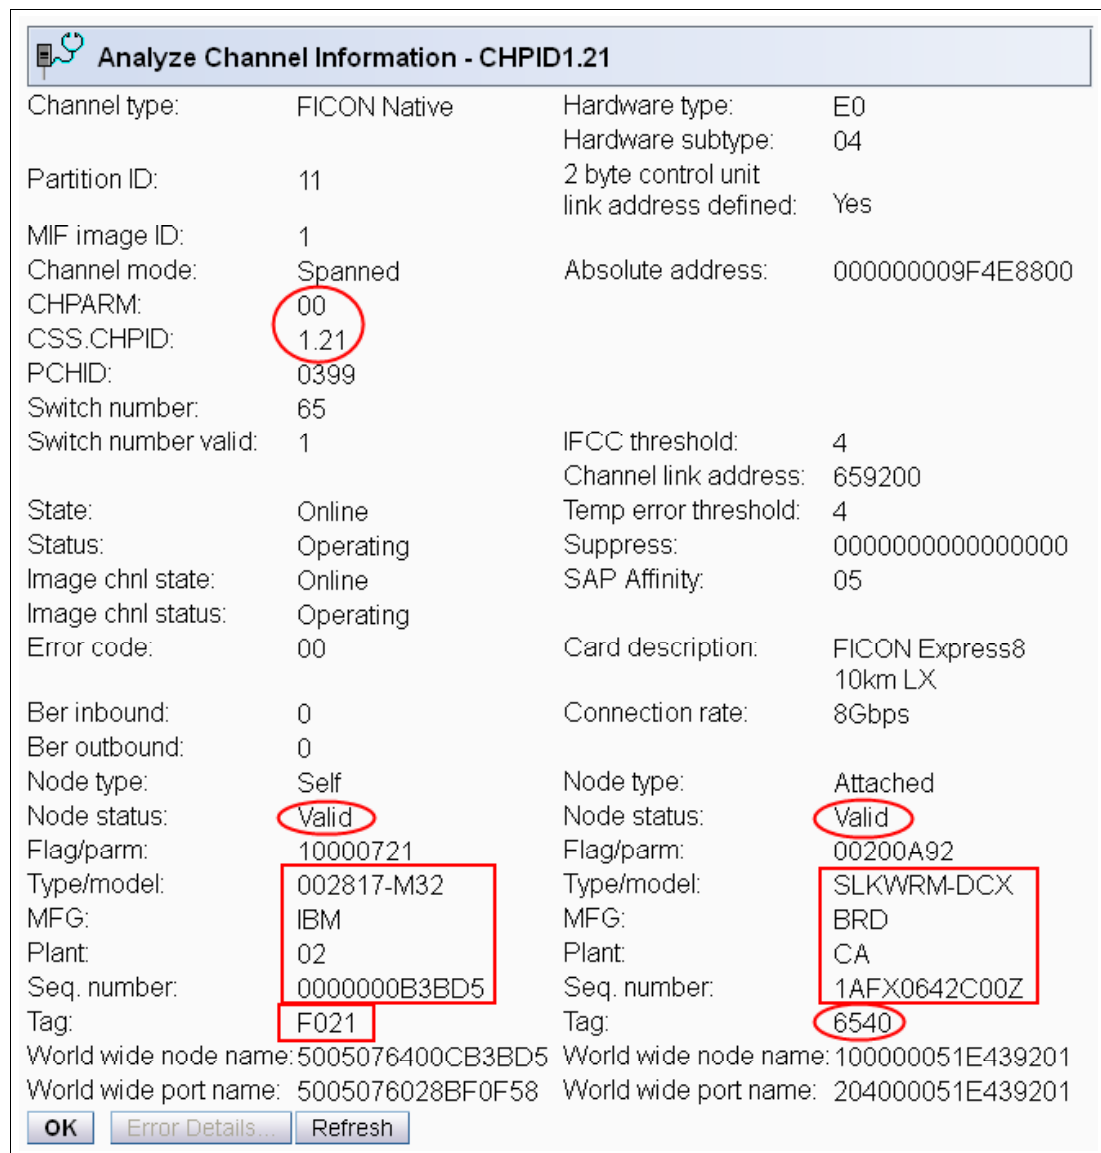

Figure 7-56 HMC Analyze Channel Information
4. Select **Analyze channel information**, and click **OK**. The Analyze Channel Information window is displayed, as shown in Figure 7-56, which provides information about the node attached to the FICON channel.